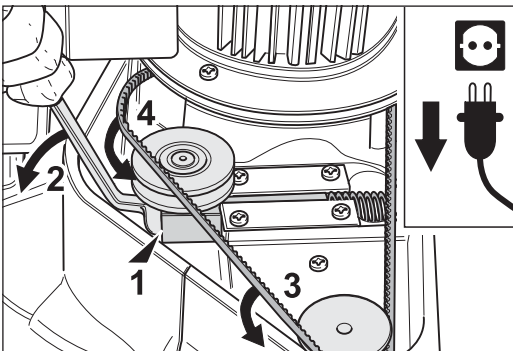
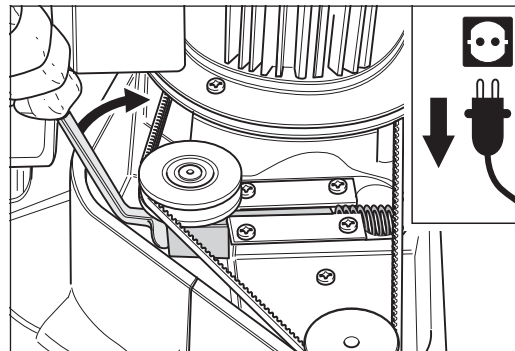

Fig. 98 Insert the closed mouth wrench below the clamping roll (1), move the belt tensioner (2) and insert the V-belt into the pulleys (3 + 4).
Fig. 99 Release the tensioner into its regular position.
- 4 Use the closed mouth wrench to push the tensioner back against the spring (fig. 98, 1 + 2) and place the V-belt into the pulleys of the ventilator and tensioner (fig. 98, 3 + 4). When the V-belt has been inserted you can release the tensioner into its regular position (fig. 99).